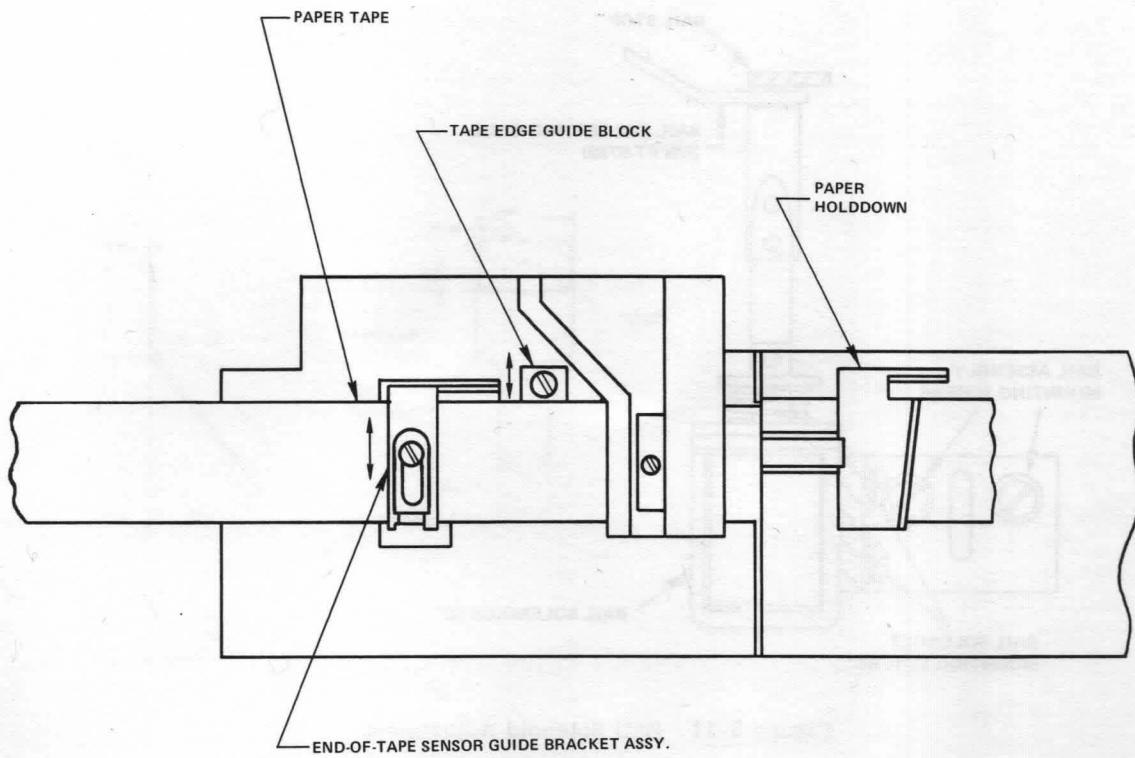

Figure 5-12 Edge Guide Adjustment
1. Insert a piece of prepunched paper tape in the Punch unit and close the paper hold-down (Figure 5-12).
The P135 Punch is factory adjusted to accommodate an eight-level (one-inch wide) tape. If a narrower tape is to be used, the rear end-of-tape sensor bracket-guide combination must be adjusted (Figure 5-12).